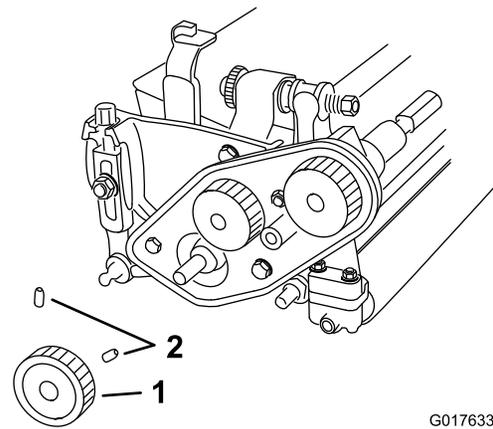

Figure 7
3. Loosen the 2 set screws securing the lower pulley and remove the pulley from the reel shaft (Figure 7).